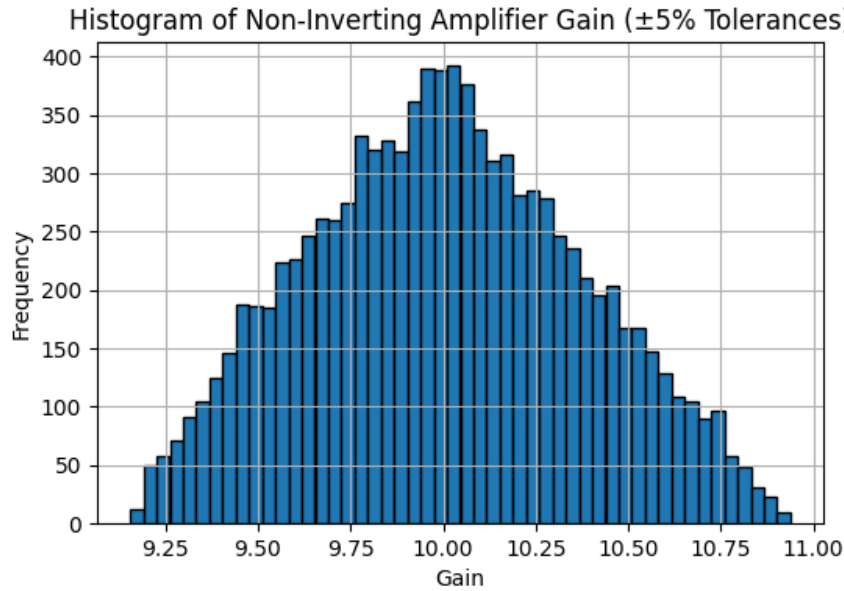

Figure 17: Solution for problem 7. See script `set2_prob7.py` for solution details.
2. Solution plot is shown in Fig. 17.